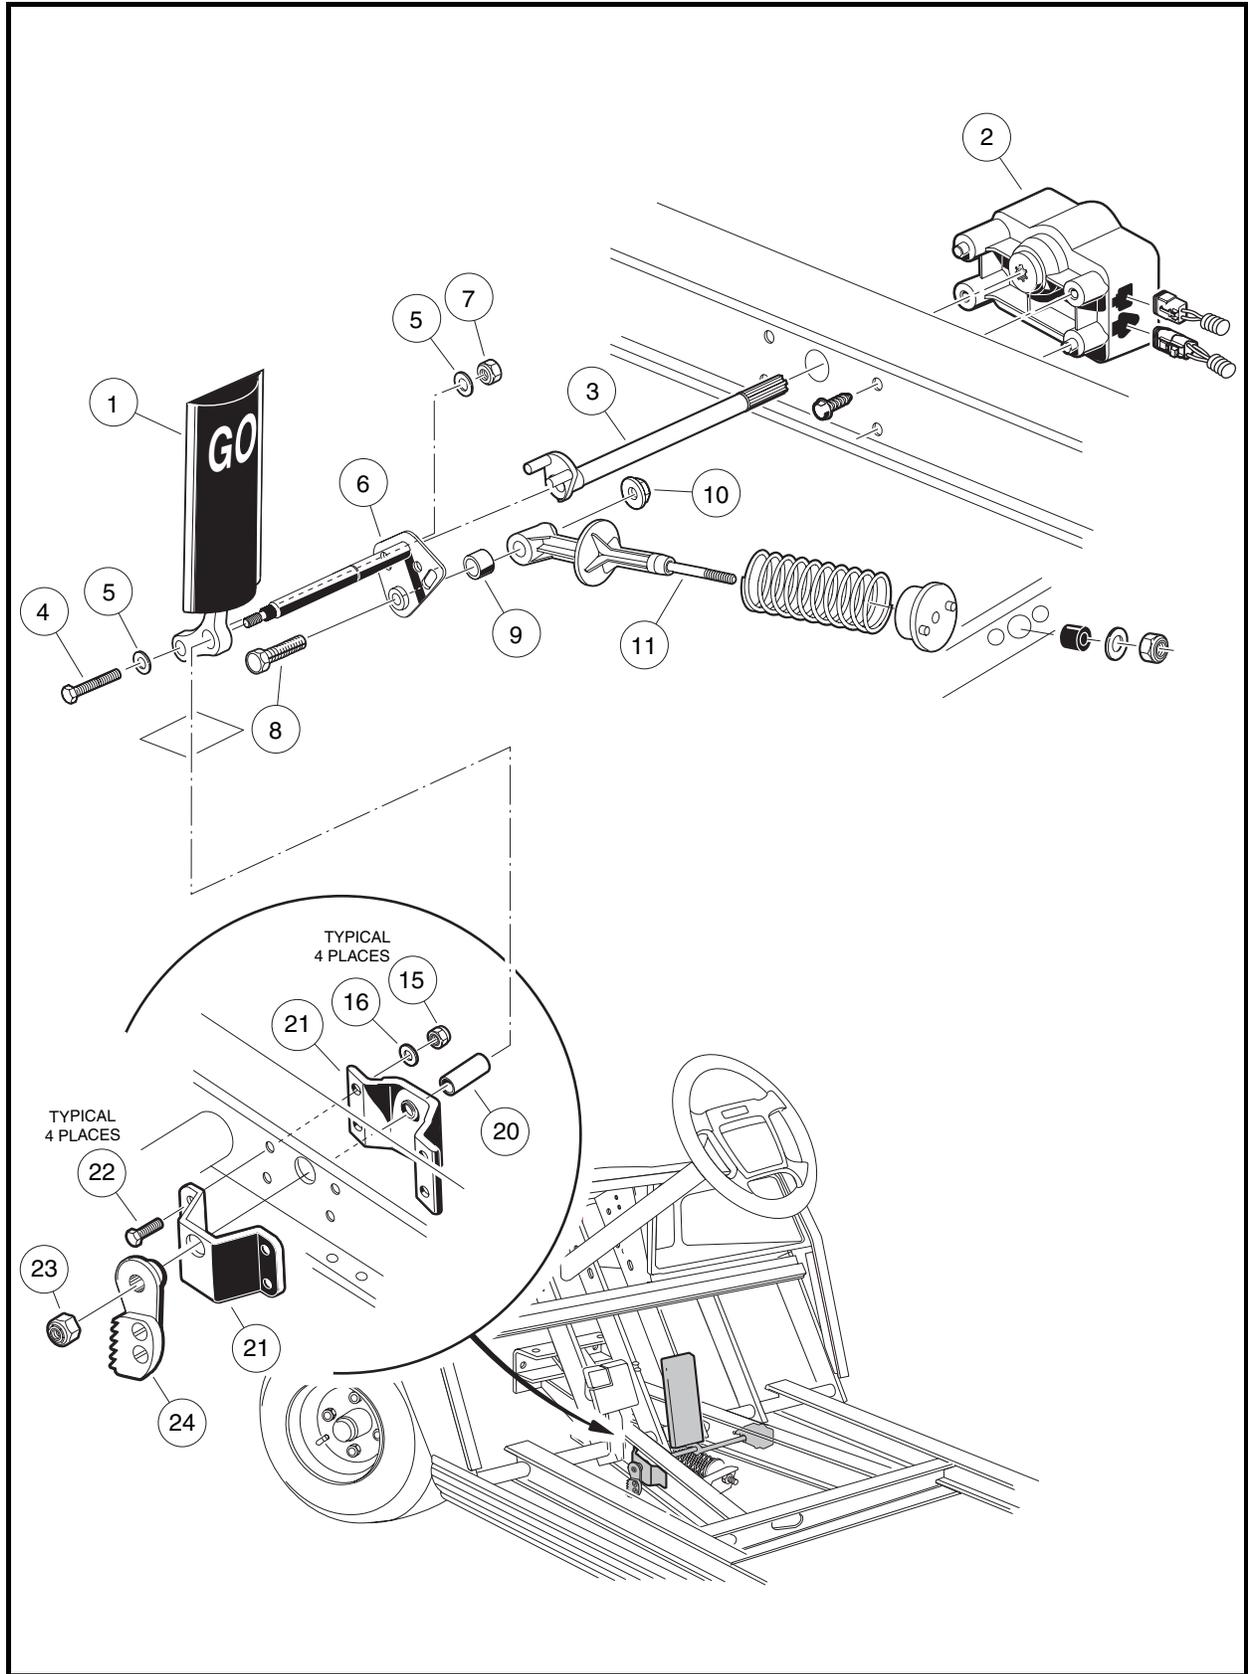

Figure 5-8 Accelerator Pedal – Electric Vehicle
3. Remove the MCOR (2) and drive bar (3) as instructed (**Figure 5-8, Page 5-10**). See **MCOR Removal, Section 12, in the appropriate maintenance and service supplement.**
4. Use a 9/16-inch socket and 9/16-inch wrench to remove the nut (7), two washers (5), and bolt (4) securing the accelerator pedal (1) to the pivot rod (6) (**Figure 5-8, Page 5-10**).
5. Remove the nut (10) and bolt (8) from the accelerator pivot rod assembly (6).
6. Slide the spring retainer (11) off of the accelerator pivot rod.
7. Inspect the pivot support bearing (9) for wear and replace if necessary.
8. Use a marker to mark the position of the park brake ratchet (24) on the accelerator pivot rod (6). See following **NOTE.**
9. Remove the lock nut (23) from the accelerator pivot rod.
10. Press the brake pedal slightly and slide the park brake ratchet (24) toward the end of the accelerator pivot rod. Rotate the ratchet and remove it from the pivot rod.
11. Remove the pivot rod (6) and spacer (20) from the accelerator pivot rod supports (21) (**Figure 5-8, Page 5-10**).
12. Inspect the accelerator pivot rod supports (21) for wear and damage and replace as necessary. If the pivot rod supports do not require replacement, loosen, but do not remove, the four bolts (22) and lock nuts (15) to make installation of the pivot rod easier.
13. Remove the accelerator pedal (1) from the vehicle (**Figure 5-8, Page 5-10**).
1. If the accelerator pivot rod supports were replaced, position the supports (21) on the vehicle frame and install the four bolts (22), flat washers (16), and lock nuts (15) (**Figure 5-8, Page 5-10**). Finger-tighten nuts at this time.
2. Insert the lower end of the accelerator pedal (1) through the floorboard and install the accelerator pivot rod (6) through the uppermost hole in the pedal.
3. Install plastic spacer (20) on pivot rod (6).
4. Insert the pivot rod through the pivot rod supports (21) on the vehicle frame.
5. Tighten the four bolts (22) attaching the pivot rod supports to the frame to 75 in-lb (8.5 N·m) (**Figure 5-8, Page 5-10**).
6. Insert the bolt (4), two washers (5), and a new lock nut (7) through the lower hole in the pedal and through the pivot rod. Finger-tighten lock nut at this time.
7. Install the bolt (8) through the pivot rod (6) and spring retainer (11). Secure these parts with the nut (10) (**Figure 5-8, Page 5-10**). Tighten the nut to 50 in-lb (5.5 N·m).
11. Install lock nut (23) on pivot rod (**Figure 5-8, Page 5-10**). Tighten to 18 ft-lb (24.5 N·m).
12. Install the MCOR (2) and drive bar (3) as instructed. **See MCOR Removal, Section 12, in the appropriate Maintenance and Service Supplement.**